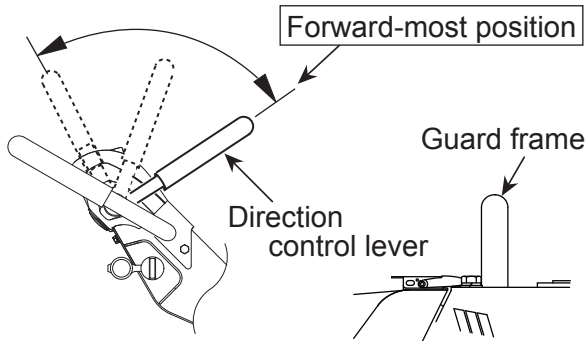

Figure 33. Direction Control Lever (Forward Position)
- With the direction control lever at the forward-most position, secure the guard frame with a rope to immobilize (Figure 33).